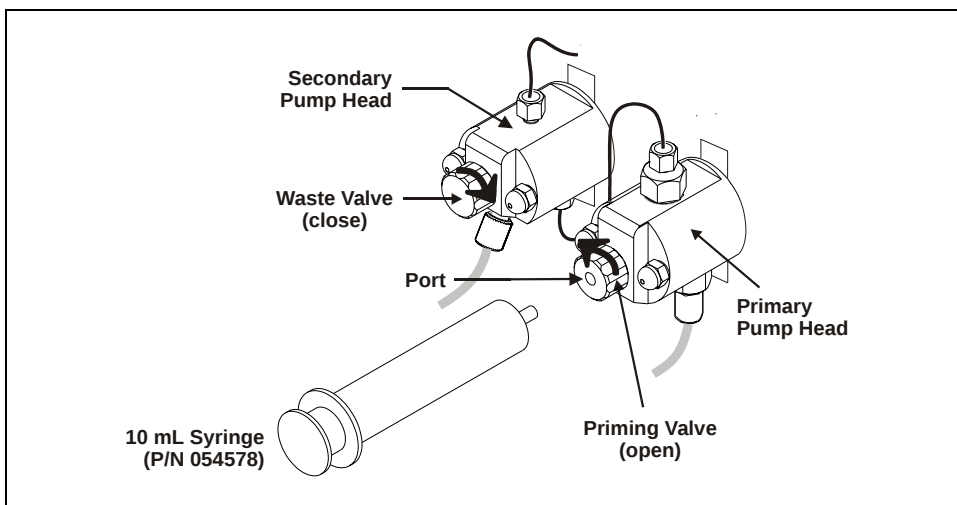

Figure B-27. Priming the Eluent Lines
2. Connect a 10 mL syringe (P/N 054578) to the port in the priming valve on the primary pump head (see Figure B-27).